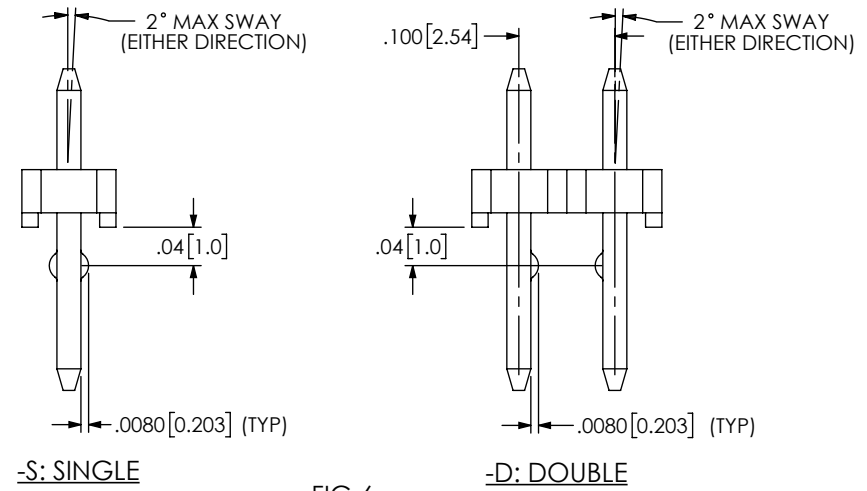

FIG 6
-LL: TH WITH LOCKING LEADS (SEE FIG 6, SHT 2)